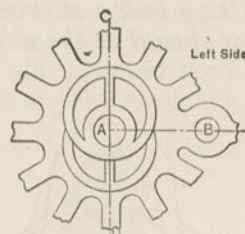

Fig. 186.
*A. As seen in Fig. 186, where A is the axle, B the crank pin on the forward center, and CD the center line of eccentrics.*
*A. As in Fig. 186, the amount of angle depending on the amounts of lap and lead.*